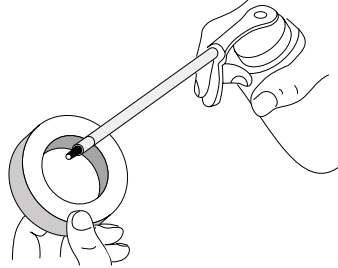

Fig. 33
4. Apply enough clean SAE 30 oil to lightly coat the filter (Fig. 33).